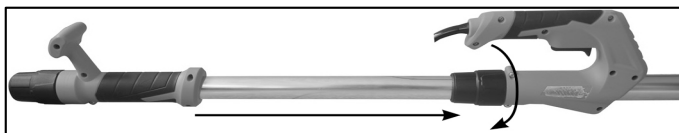

Fig. 2
2. Insert the shaft of the rear handle (G) into the slot located at the back of the main handle (E). Secure by twisting the collar until tight. See Fig. 2.